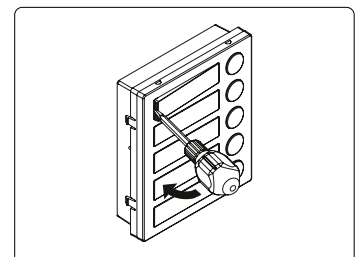

Fig. 11
- Move the screwdriver to the left as shown in **Fig. 11** to extract the card name holder.